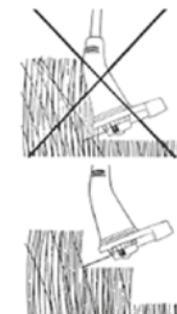

Fig. 10
2. High grass should be cut in layer always beginning from the top. Do not cut damp or wet grass; do not overload your machine. (Fig. 10)